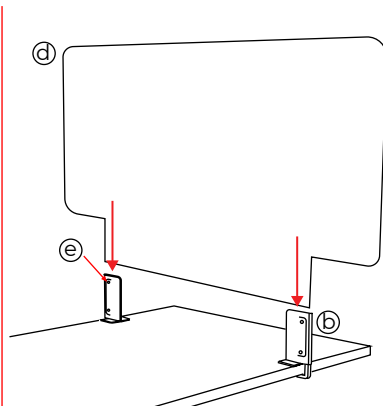

Figure 3
- Loosen top screw (e). Place Acrylic Panel (d) inside the Bracket Housing (b) and tighten top screw (e) as shown in Figure 3.